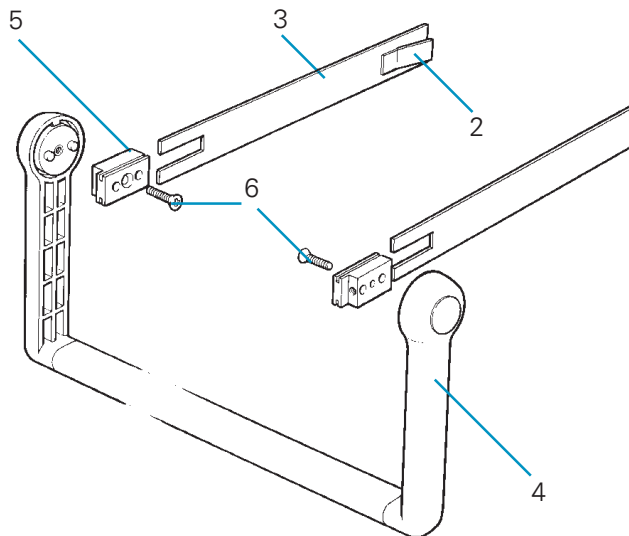

Figure 3.2 - Handle Assembly
- If the side plates (3) are stored in the side channels, release retaining spring with a screwdriver and slide out of the instrument.
- Slot the side plates (3) into the adaptor blocks (5) (see also Fig. 3.2), fit the handle across the instrument and slide in side plates until they lock.
- Remove the carrying handle from the adaptor blocks (5) by unscrewing the two countersunk socket head screws (6) as shown in Fig. 3.2.